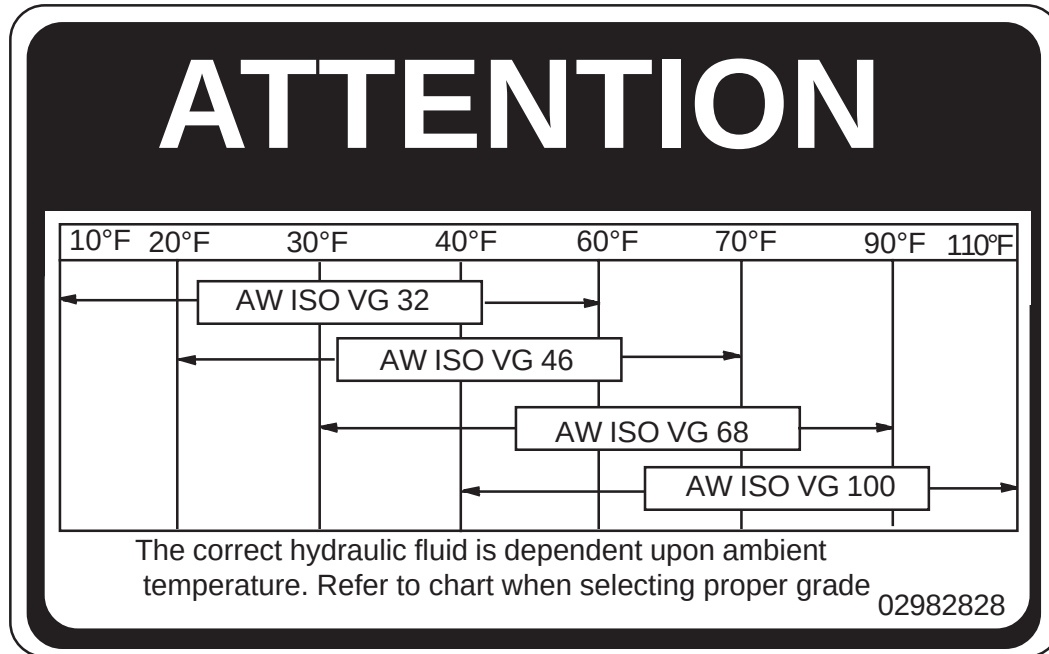

Figure 4
The Port openings on this diverter valve are marked with letter number codes which show which port is connected to which hose and where that hose connect on other end (See Figure 4, 5 & 6))
1. Filling With Recommended Hydraulic Oil. The oil used **MUST MEET** the requirements as to type and cleanliness level, **THIS IS A MUST**. The oil must be type **ISO Grade Hydraulic Oil w/ protection wear grade based on abient temperature (See Decal Figure 4)**. The grade of oil will vary with the ambient twmperature. The Fluid **Cleanliness level MUST BE ISO 16/14/11** rating. **MAKE CERTAIN** that the oil you are using meets this requirement. If Oil does not test to cleanliness requirment, it will have to be filtered to clean it before installing it into the maverick hydraulic system. NEVER install or add Oil that does not meet these stadand requirements.
4. Important: Change the return filter in tank and suction filters at recommended hours of operation (See Operators Manual for maintanace schedule). The only hydraulic oil to be used is the AW ISOAW Tractor Hydraulic Oil (See Figure 4 for oil Grade) with a cleanliness level of ISO16/14/11. Always use a good Filter Maintenance program and Oil cleaning system before adding any oil to system..